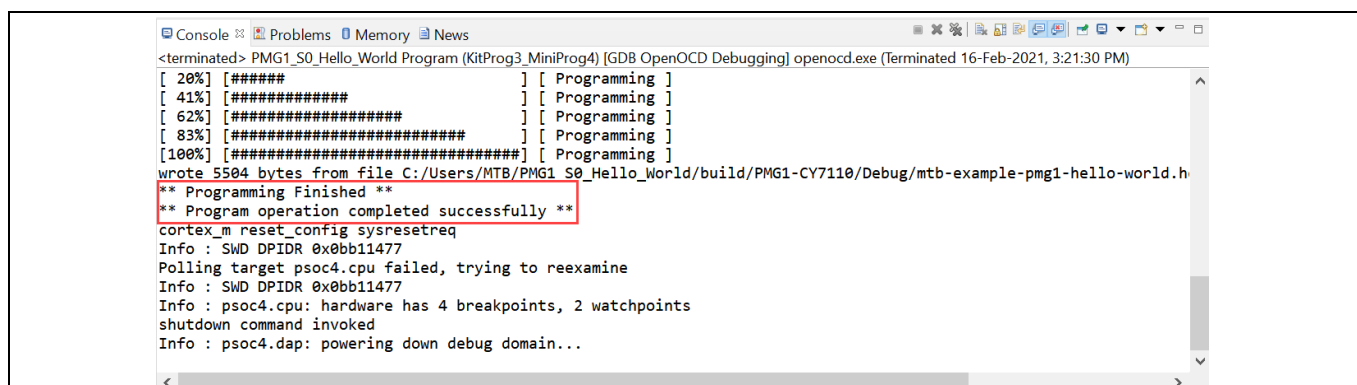

Figure 18 Console – programming results
- The **Console** view in the ModusToolbox™ software lists the results of the programming operation, as **Figure 18** shows.